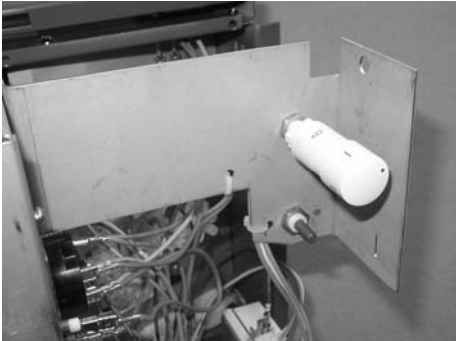

Fig.5 Fixing the potentiometer
- Fix the potentiometer to the fixing plate with the 3.5x9.5 screws provided (Fig.5).
Fix the potentiometer cables to the fixing plate with the cable binder provided (Fig.5).